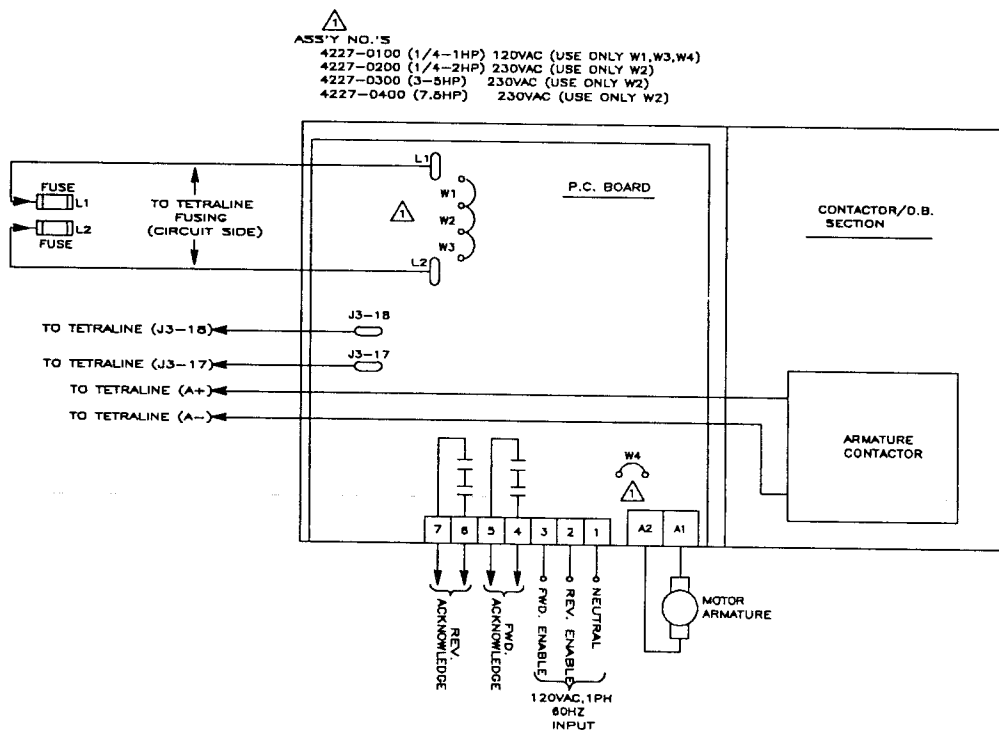

Fig. 15 - Interconnection Information
P.C. Interface with Contactor Reversing and Dynamic Braking is a separate chassis mount option that inter-wires to the Tetra-Line. It provide contactors for reversing the motor rotation and for disconnecting the motor armature from the armature output of the Tetra-Line. It has an anti-plug circuit so that the opposite direction contactor can not be enabled until the motor has approched almost zero speed. When the armature contactors are disabled, a brake resistor is connected across the motor armature for Dynamic Braking. The armature contactors and Tetra-Line are enabled by applying 120 VAC from an external source such as a PLC to the appropriate inputs of the option. When A.C. power is applied to the Tetra-Line and the forward or reverse contactor is enabled a set of isolated relay contacts close (for the appropriate contactor) providing a closed circuit for "Talk back" to the PLC or other logic. (This option allows the motor to be reversed by using a single polarity command signal to the Tetra-Line). (This option can not be used with D.C. Tach feedback, consult factory). See Fig 15 connection diagram.